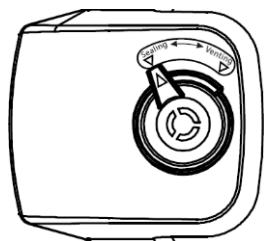

Figure 15
4. Adjust the Pressure Limiting Valve (3) to the "Sealing" position, and ensure that the Float Valve (4) sinks.
5. When adjusting the Pressure Limiting Valve (3) to either the "Sealing" or the "Venting" positions, line up the marking on the Pressure Limiting Valve (3) with the arrow on the Handle (1) as shown in Figure 15.